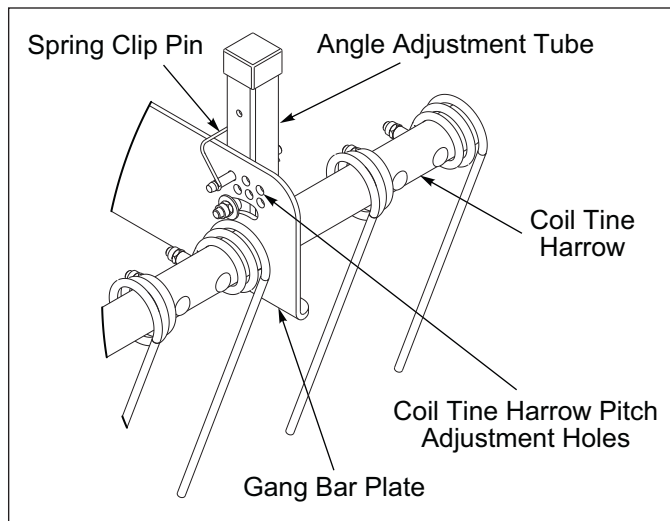

Figure 3-16: Center Harrow Pitch Adjustment
1. Adjust the pitch of each row of Coil Tines by removing the Harrow Spring Clip Pin from all of Harrow Angle Adjustment Tubes and rotate all the tubes to the same desired angle. **See Figure 3-16.**